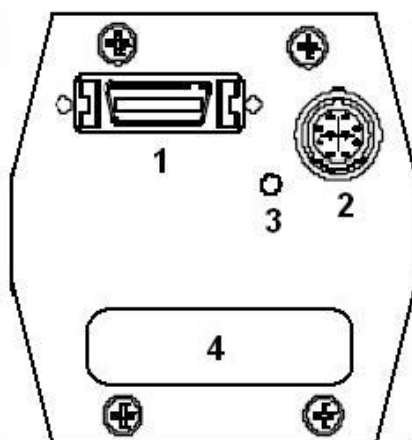

Figure 1.4b – Old IPX and MDC Camera Back Panel
1. Old IMPX and MDC cameras sold prior to March 1, 2005 have back panel shown on Figure 1.4b.